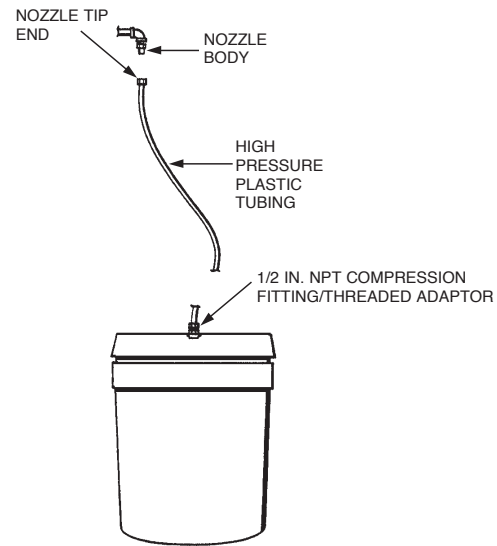

FIGURE 7-3
7. To perform the flushing procedure, either secure heavy-duty plastic bags to each nozzle (See Figure 7-2) or remove each nozzle tip and strainer and attach plastic tubing. See Figure 7-3.